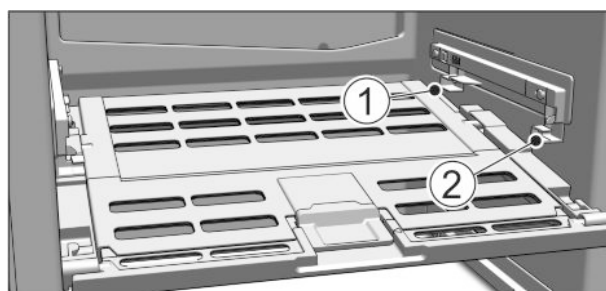

Fig. 48
- ▶ Replacing the Fruit & Vegetable safe cover: Guide the ridges on the cover into the rear brackets Fig. 48 (1) and click it into the front bracket Fig. 48 (2).